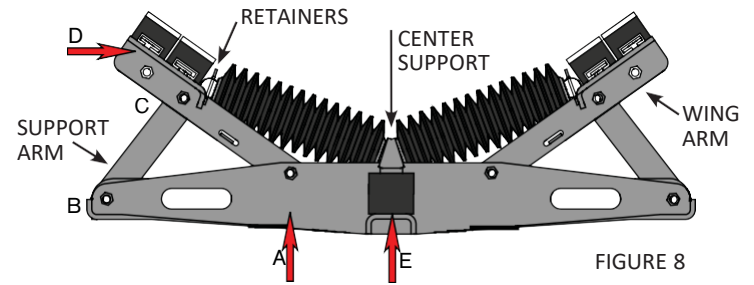
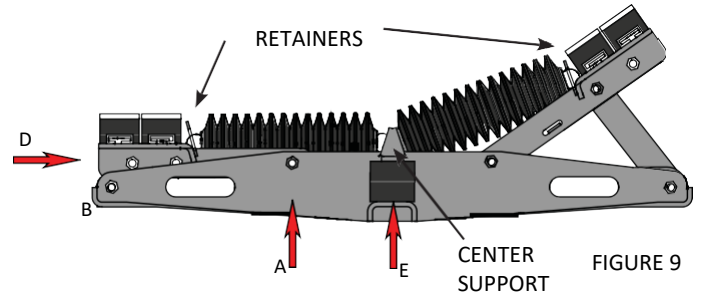
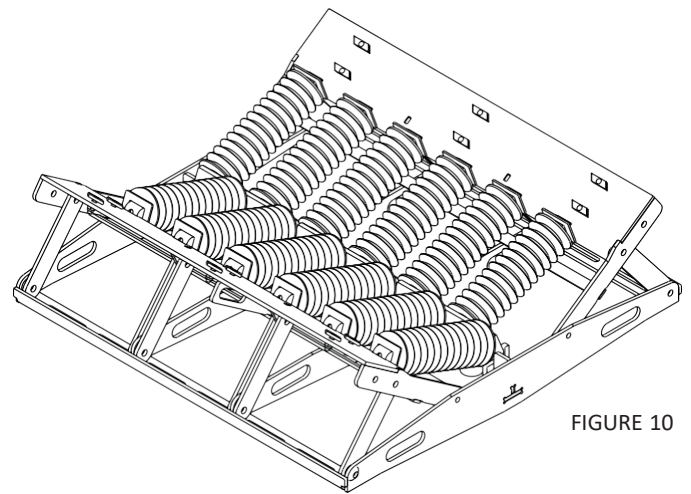

FIGURE 8
FIGURE 9
FIGURE 10
The Slider Rails will need to be replaced when the belt has worn through the white plastic and is showing the black rubber beneath. Typically, the Slider Rails are replaced with the Wing Arm in the lowered position as shown in figure 9. Depending on the amount of room around the Trougher Impact System it may be possible to change the Slider Rails with the Wing Arm in the raised position as shown in figure 8.
1. Loosen the T-Bolt nuts under the Wing Arm near D as shown in figures 8 and 9. Once the nuts have been loosened, the T-Bolt will turn $\frac{1}{4}$ of a turn and release the rail. Rotate the T-Bolt a $\frac{1}{4}$ of a turn. The T-Bolt will line up with the slot that runs the length of the Slider Rail allowing the slider rail to lift off the Wing Arm.
2. To reinstall the Slider Rail, line up the T-bolts as shown in figure 10 on the Wing Arm as shown in figure 9. Fit the Slider Rail over the T-Bolts. Then push the T-Bolts up into the rail slot and tighten. The T-bolts should be tightened to a torque of 10 to 20 ft-lbs.
1. Remove the nuts and lock washers located under the Wing Arm near D as shown in figures 8 and 9. Once the bolts have been removed the Slider Rails along with the T-Bolts can be lifted off the Wing Arm.
2. To reinstall the Slider Rail, first install the T-Bolts into the holes in the Wing Arm and line them up as shown in figure 10. Fit the new Slider Rail over the top of the T-Bolts. Then push the T-bolts up into the slot of the Slider Rail and tighten. The T-bolts should be tightened to a torque of 10 to 20 ft-lbs.